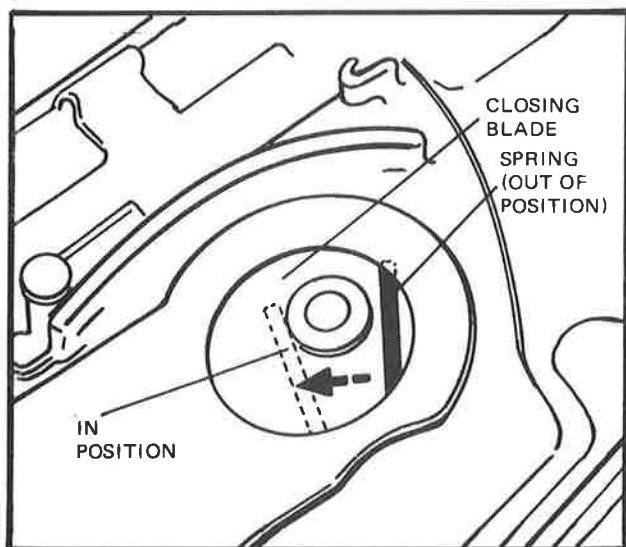

FIG. 3-15 SECOND BLADE SPRING
- b. Check the spring on the second (closing) blade. If the spring has slipped out of position (Figure 3-15), remove the scene selector, aperture wheel and light baffle and return the spring to its proper position.